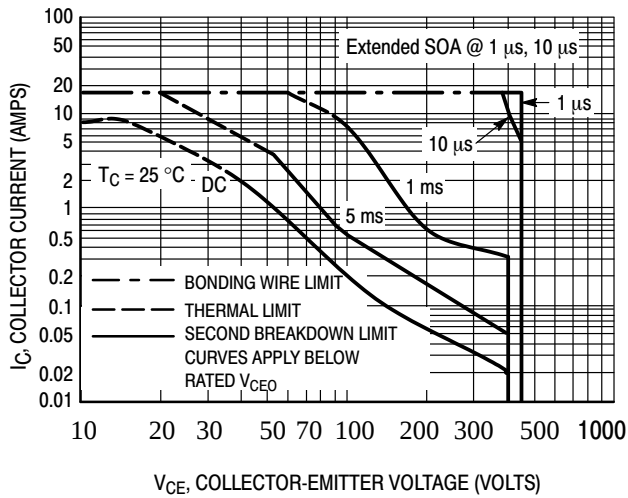
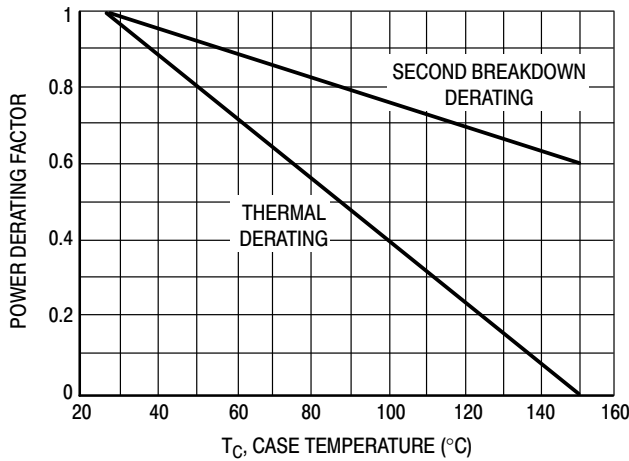

Figure 6. Maximum Forward Bias Safe Operating Area
Figure 8. Forward Bias Power Derating
The data of Figure 6 is based on $T_C = 25\text{ }^\circ\text{C}$; $T_{J(pk)}$ is variable depending on power level. Second breakdown pulse limits are valid for duty cycles to 10% but must be derated when $T_C \geq 25\text{ }^\circ\text{C}$. Second breakdown limitations do not derate the same as thermal limitations. Allowable current at the voltages shown on Figure 6 may be found at any case temperature by using the appropriate curve on Figure 8.
The sustaining or active region voltage requirements in switching applications occur during turn-on and turn-off. If the load contains a significant capacitive component, high current and voltage can exist simultaneously during turn-on and the pulsed forward bias SOA curves (Figure 6) are the proper design limits.
2. The turn-on time does not exceed 10 μ s (see standard pulsed forward SOA curves in Figure 6).